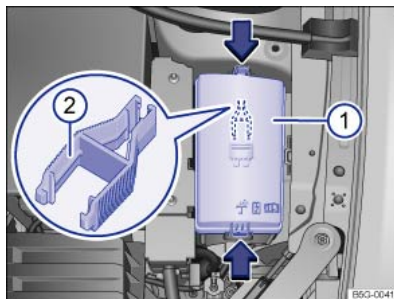

Fig. 210 In the engine compartment: cover ① of fuse box with plastic pliers ②.
- Press the release buttons in the direction of the arrow \Rightarrow Fig. 210 ① to release the fuse box cover.
In some vehicles, there is a pair of plastic pliers \Rightarrow Fig. 210 ② for removing fuses on the inside of the cover of the fuse box in the engine compartment.